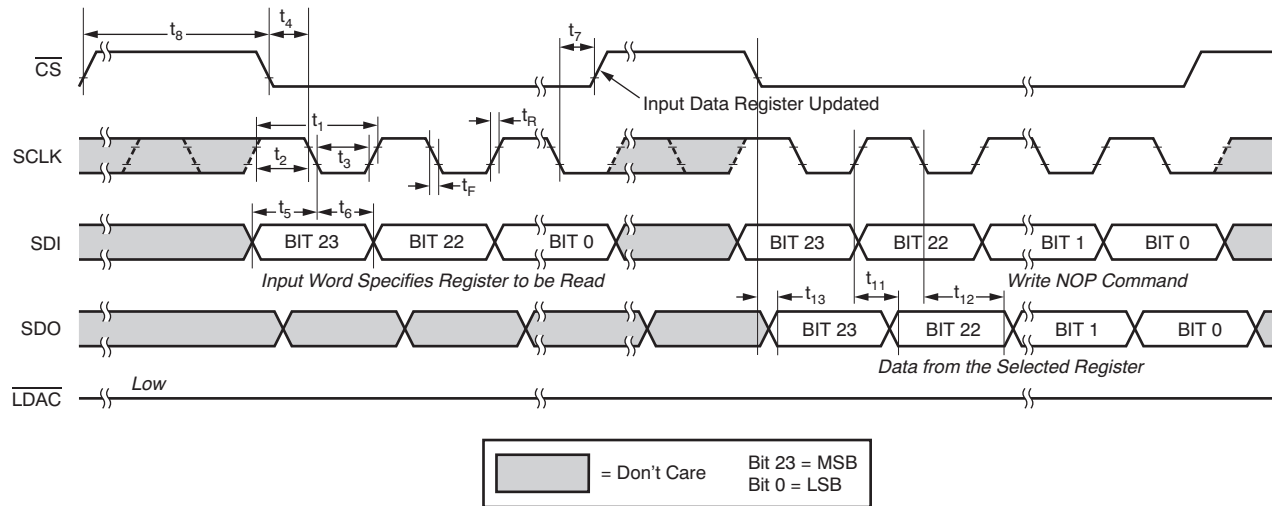

Figure 3. SPI Timing for Readback Operation in Stand-Alone Mode
**TIMING CHARACTERISTICS** For Figure 2 to Figure 3(1)(2)(3)